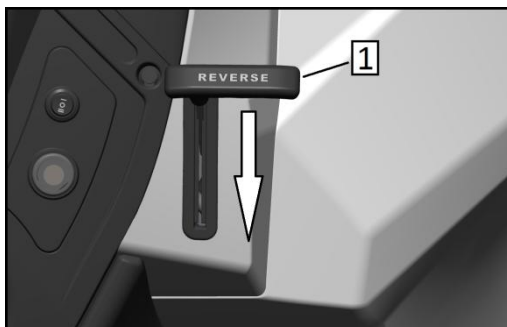

Fig. 1
3. **After the gear shift lever (position 1, Figure 1) is smoothly transferred to the brake position, the engine should idle when shifting. Wait for the alarm signal to turn on before pressing the throttle lever.**